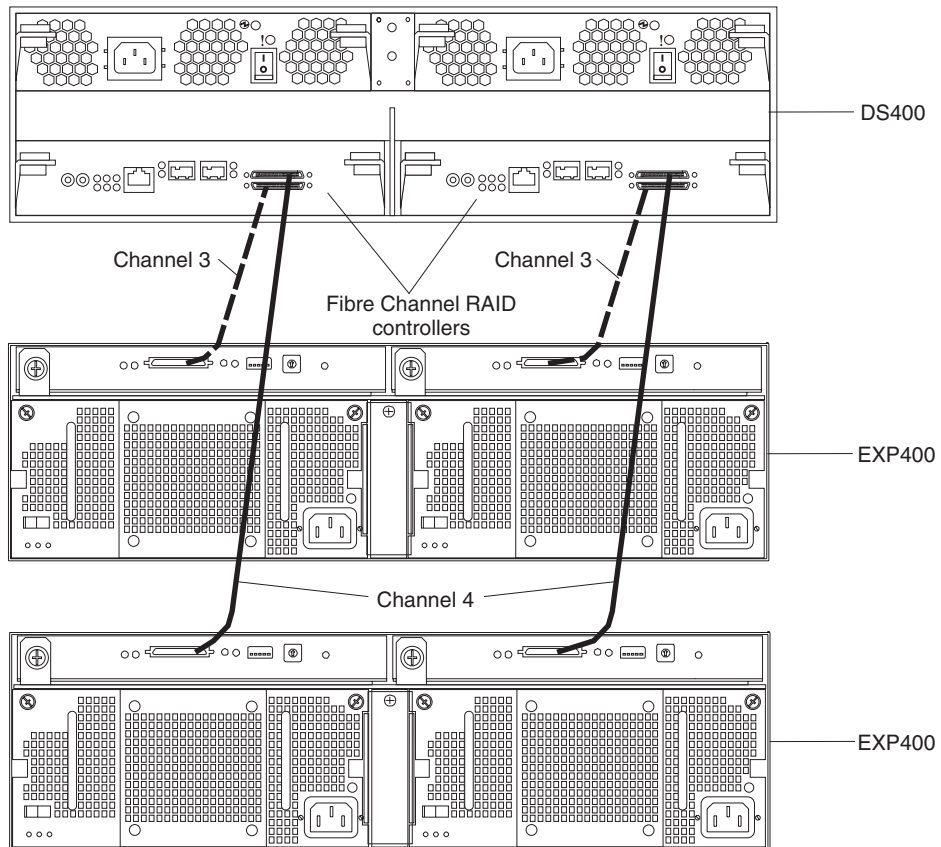

Figure 38. Connecting two EXP400 expansion units to a DS400 dual-controller storage subsystem
2. Use the IBM 2M SCSI cable that comes with the expansion unit or use a 4.2M LVD SCSI cable to connect the EXP400 to the DS400 (see Figure 38 on page 44.) You can connect one or two expansion units.